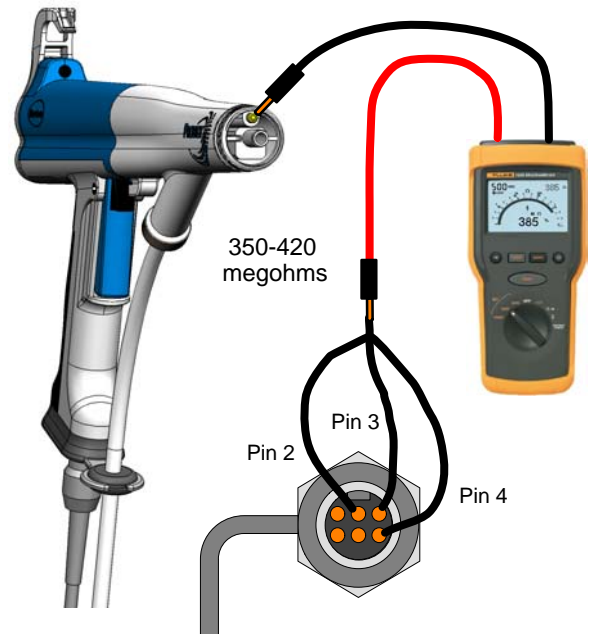

Figure 10 Cable End to Spring Plunger Test
1. See Figure 10. Remove the nozzle.